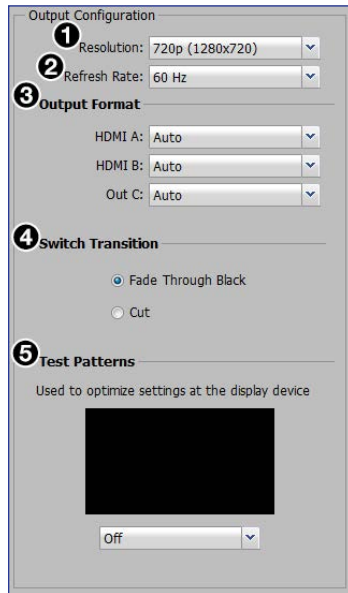

Figure 60. Output Configuration (IN1608)
From the Resolution drop-down menu (see figure 60, ①), select the applicable output resolution.